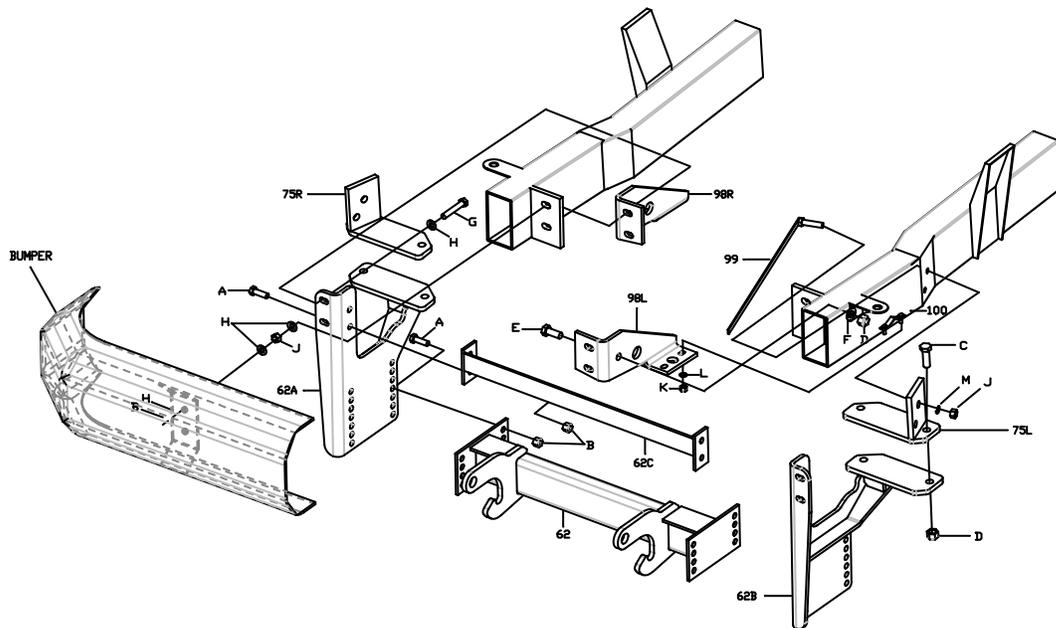

Figure 1
1. Remove the Front Bumper. Remove the Bumper mounting bolts. Insert the BOLT BAR (Ref. 100, Fig. 1) inside the frame rail. Using the 3/8" – 16 SELF LOCKING NUTS and HARDENED WASHERS provided, install the FRAME GUSSET (ref. 98R and 98L, Fig. 1). Fasteners should only be finger tight.
2. Position the PUSH BEAM SUPPORT PLATES (Ref. 62A and 62B, Fig. 1) behind the FRAME GUSSET, and secure with 1/2" – 13 x 3" FULL THREAD BOLT, 1/2" HARDENED WASHERS and 1/2" – 13 NUT. Insert the bolt from the rear, with the nut in front. Tighten fasteners finger tight.
3. Position the FRAME MOUNTS (Ref. 75R and 75L, Fig. 1) on the PUSH BEAM SUPPORT PLATE, and fasten with the 5/8" – 11 x 2" HEX HEAD BOLTS and the 5/8" – 11 SELF-LOCKING NUTS provided. Tighten fasteners finger tight.
4. Raise the FRAME MOUNTS up tight against the frame. Mark and drill the top hole of the FRAME MOUNTS. Fasten the FRAME MOUNTS to the Frame using 5/8"-11 NUTS, 5/8" SPLIT LOCK WASHER, and BOLT BARS (Ref. 99, Fig. 1) provided.
5. Attach the CROSS MEMBER WELDMENT (Ref. 62C, Fig. 1) to the PUSH BEAM SUPPORT PLATES (Ref. 62A and 62B, Fig. 1) using 1/2" – 13 x 1- 1/2" HEX HEAD BOLTS and 1/2" – 13 SELF LOCKING NUTS provided.
6. Attach the PUSHBEAM (Ref. 62, Fig. 1) to the PUSH BEAM SUPPORT PLATES (Ref. 62B and 62C, Fig. 1) using 1/2" – 13 x 1- 1/2" HEX HEAD BOLTS and 1/2" – 13 SELF-LOCKING NUTS provided.
7. Adjust the spacing of the bumper mounting bolts (Ref. G, Fig. 1) to match the spacing on the bumper, then torque the bolts as specified in Figure 3. Install the Bumper and secure with 1/2" – 13 SELF-LOCKING NUTS and 1/2" HARDENED WASHERS provided. Tighten the 1/2" – 13 SELF-LOCKING NUTS as specified in Figure 4.
9. Verify that there is adequate clearance between the LEFT PUSH BEAM SUPPORT PLATE (Ref. 62B, Fig. 1) and the pitman arm of the steering linkage.